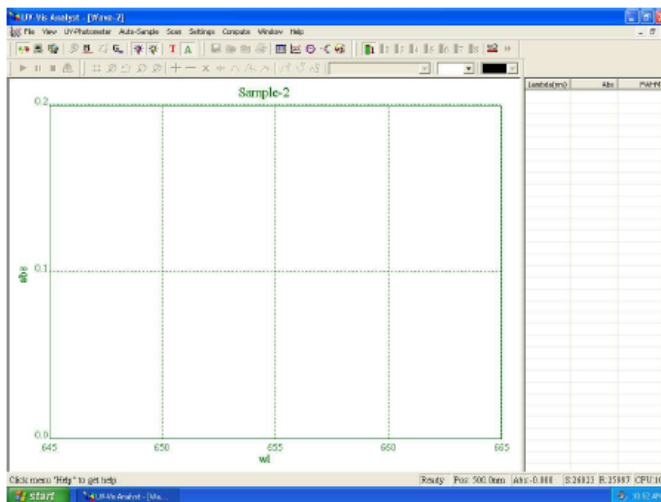

Fig. 4-10
- click  on the toolbar to new a sample scan measurement, appears the following (Fig 4-10)